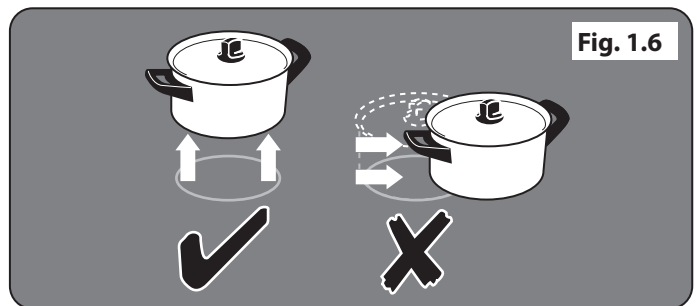

Fig. 1.6
- **ALWAYS LIFT** cookware off the hob. Sliding the griddle plate or pans may cause marks and scratches (**Fig. 1.6**).